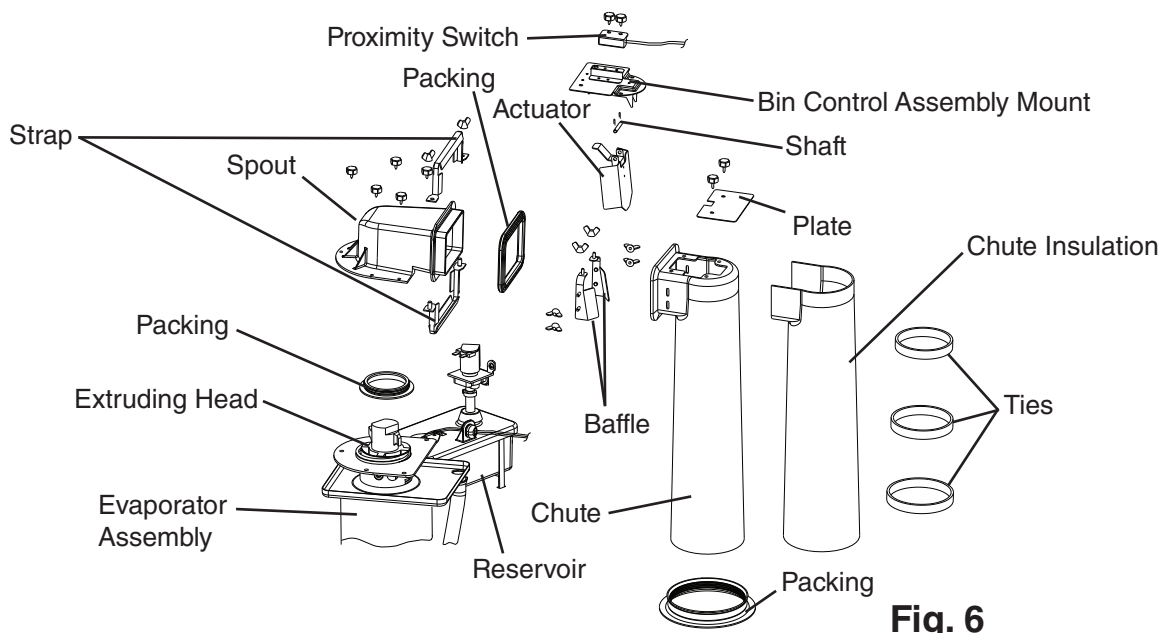

Fig. 6
- 6) Remove the strap connecting the spout to the chute assembly, then remove the spout. See Fig. 6.